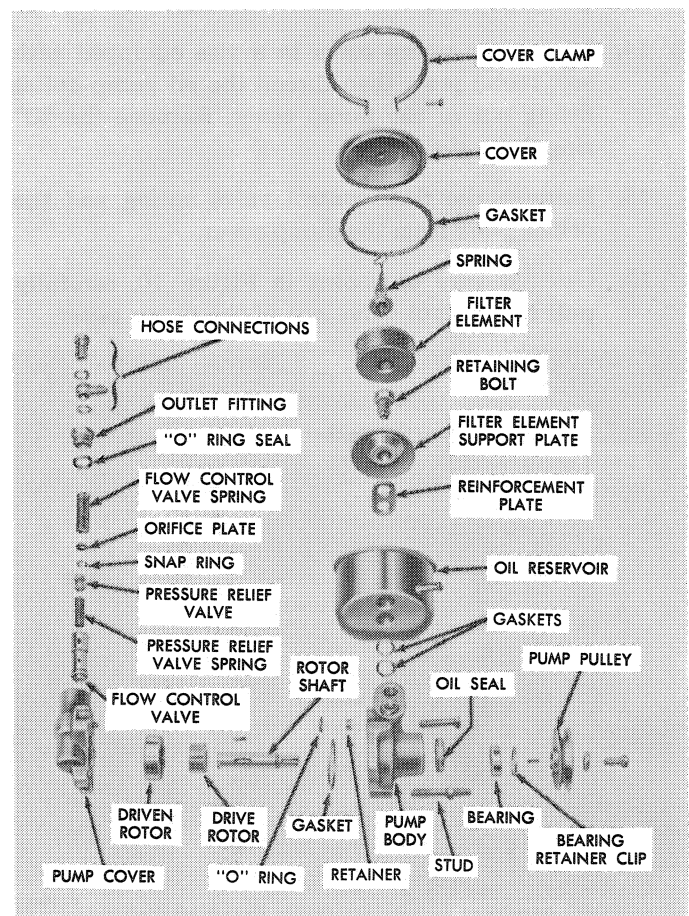

Figure 8—Rotor-Type Oil Pump—Disassembled
2. Unhook the filter element retaining spring and lift the spring and filter element from the reservoir, Figure 8.